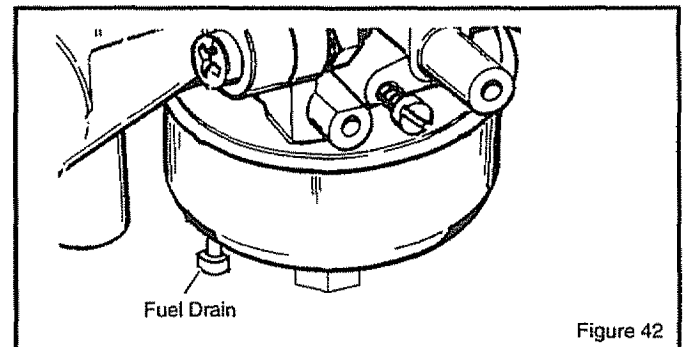

Figure 42
3. Do not leave fuel in the fuel tank or the carburetor. The fuel can damage the function of the fuel system. Some models have a **fuel drain** (Figure 42). Hold a cloth under the **fuel drain**. Push the **fuel drain** until the carburetor is empty.